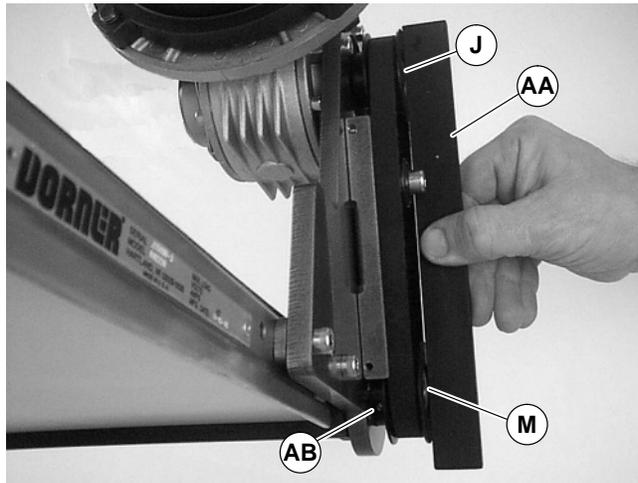

Figure 11
- Wrap timing belt (P) around driven pulley (M) and drive pulley (J). Install driven pulley (M) onto conveyor shaft.
9. Using a straight edge (AA of Figure 11), align driven pulley (M) with drive pulley (J). Tighten driven pulley set screws (AB).